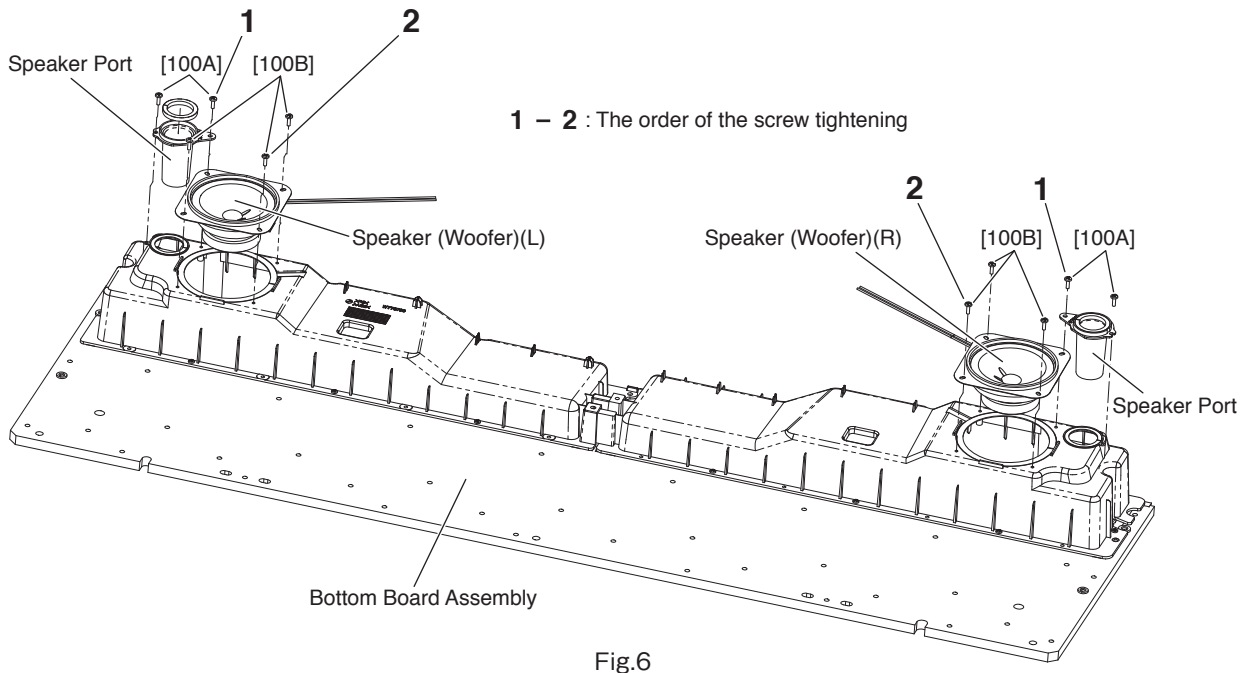

Fig.6
- 5-2 Remove the four (4) screws marked [100A]. The speaker port can then be removed. (Fig.6)
- 5-3 Remove the three (3) screws marked [100B]. The speaker (woofer) can then be removed. (Fig.6)
- * *When the woofer is assembled, tighten the screws marked [100A] and [100B] in the order of 1, 2 and the remaining screws. (Fig.6)*